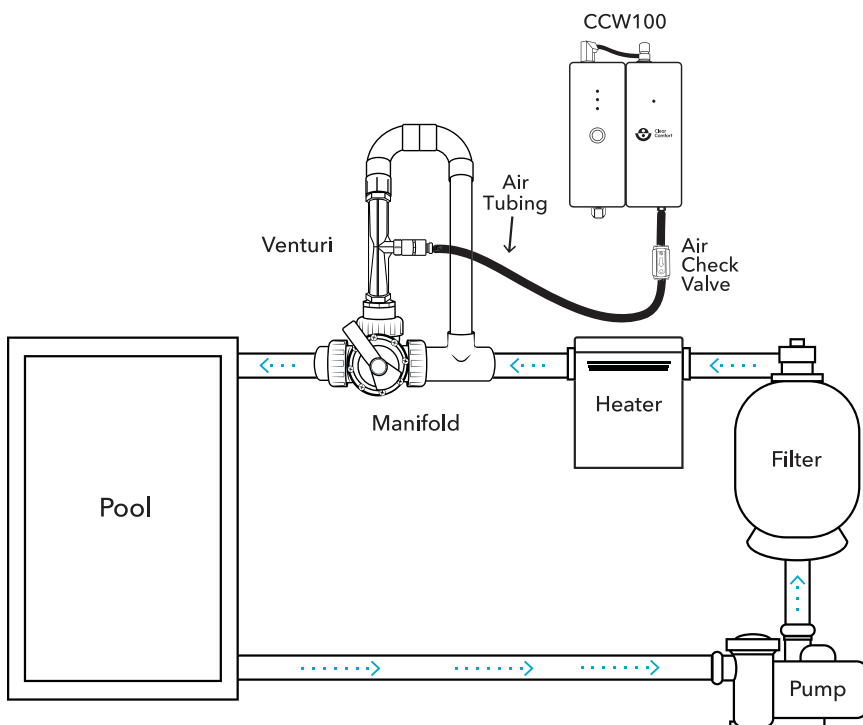

Figure 4: Full System Diagram With Manifold Injection
On page 11, Figure 4 shows the preferred installation that uses a Manifold injection.
1. Install plumbing according to Figure 4.